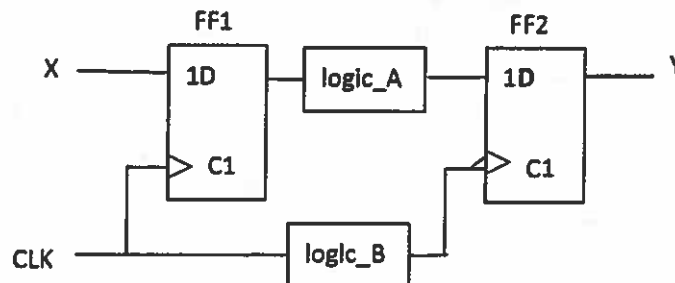

Figure 1.4
- (d) *Figure 1.4* shows a circuit with two D-flipflops FF1 and FF2 with setup and hold times of 3 ns and 2 ns respectively, and a clock-to-Q output delay of 2 ns. The clock signal CLK has a 1:1 mark-space ratio. The datapath is driven by logic_A, which has a propagation delay between 2 ns and 5 ns. The clock path is driven by logic_B, which has a propagation delay between 1 ns and 10 ns. Derive the maximum frequency of the signal CLK for reliable operation of this circuit.